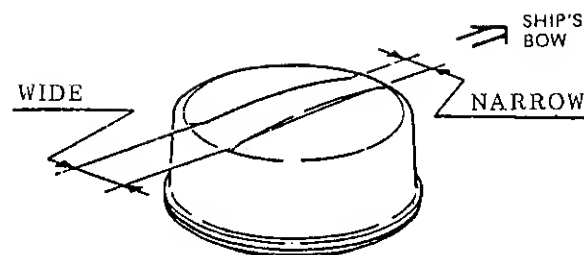

Fig. 6-7 Radome Cover Placement
10. Put the radome on the radome base assembly, taking note of that the narrower recessed part should face in the direction of the bow. Fig.6-7.
10. Install the radome on the radome base assembly, being careful of its direction. The narrower recessed part should face the bow direction. See Fig.6-7.